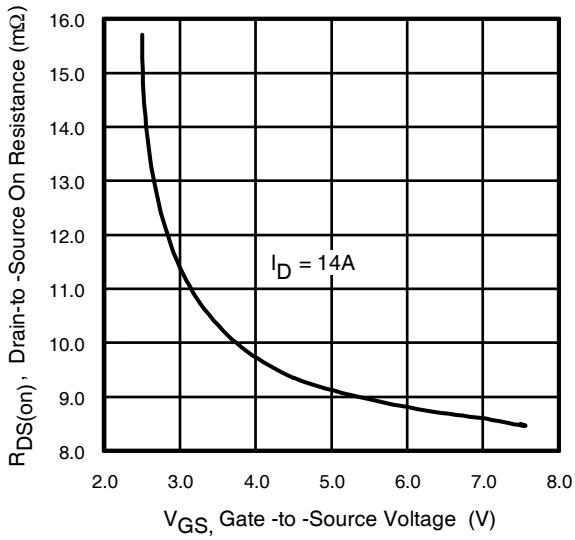
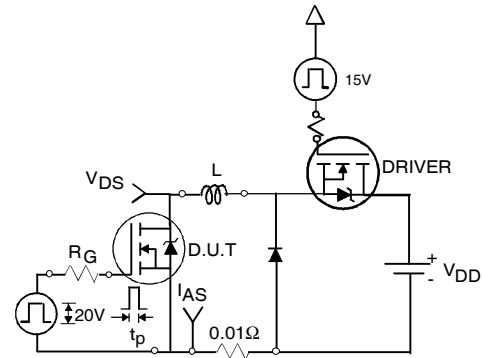

Fig 12. Typical On-Resistance Vs. Gate Voltage
Fig 16c. Unclamped Inductive Test Circuit
- ① Repetitive rating; pulse width limited by max. junction temperature.
- ② Pulse width $\leq 400\mu s$; duty cycle $\leq 2\%$.
- ③ Surface mounted on 1 in square Cu board.
- ④ Starting $T_J = 25^\circ\text{C}$, $L = 2.3\text{mH}$, $R_G = 25\Omega$, $I_{AS} = 14A$. (See Figure 12).
- ⑤ $I_{SD} \leq 14A$, $di/dt \leq 140A/\mu s$, $V_{DD} \leq V_{(BR)DSS}$, $T_J \leq 150^\circ\text{C}$.
- ⑥ Limited by T_{Jmax} , see Fig.16c, 16d, 19, 20 for typical repetitive avalanche performance.